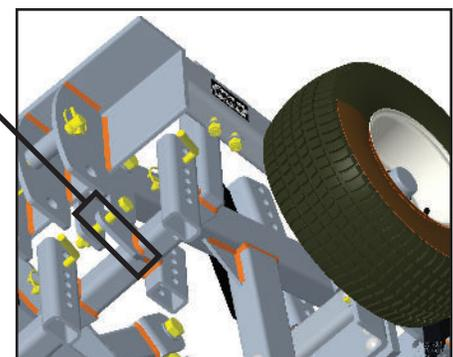

Figure 8.4
5. Slide bolts (Removed in **Step 1**) through existing frame and ears on mounting bar and re-tighten nuts using (2) 15/16" wrenches (**Figure 8.4**).